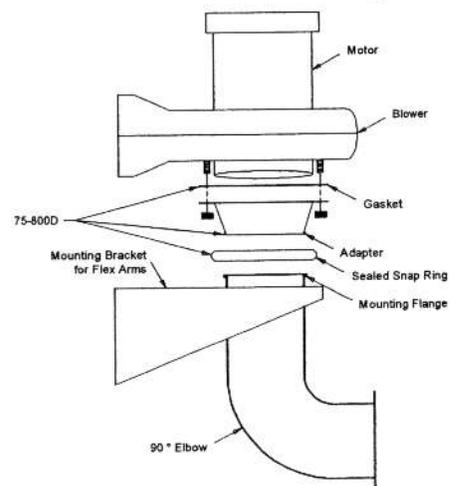

Figure 14
2. In order to use a blower (blower with 4 studs on the inlet side) connecting to the mounting bracket from the arm, **Model 75-800D** connection flange and a snap ring are required. This is a funnel type fitting that is to be bolted directly the fan inlet. See figure 14.